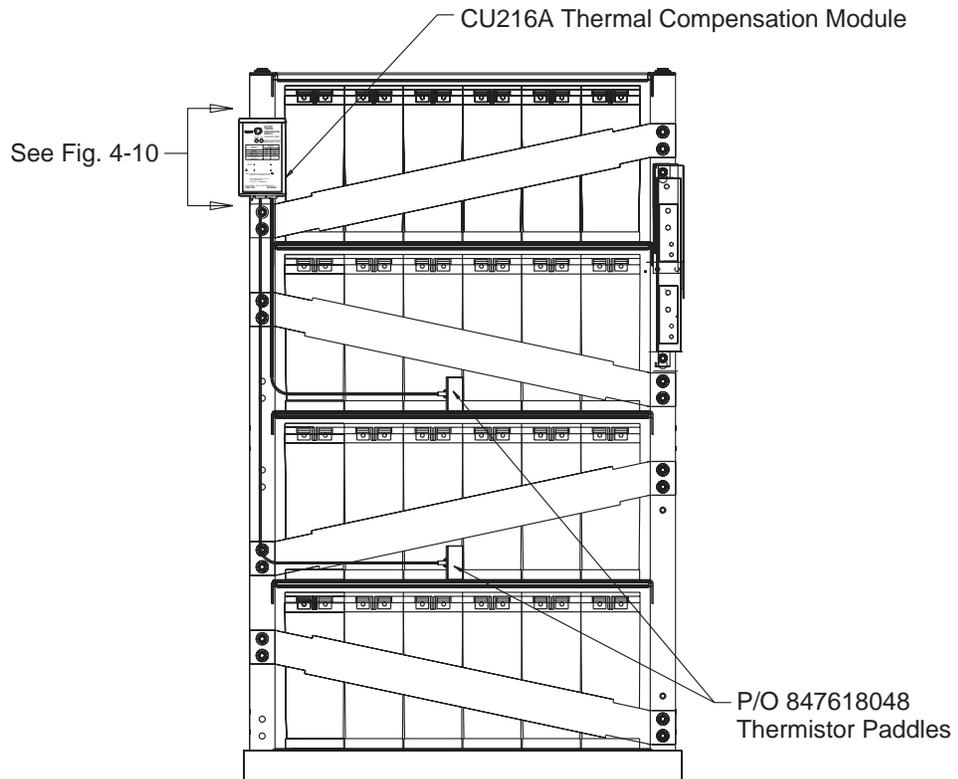

Figure 4-7: VR Battery stand (placement of thermistors)
2. Temporarily insert the thermistors in the battery locations to be monitored. See Figure 4-7 for suggested locations between the AT&T VR Batteries. Dress the thermistor wire sets from the Terminal Block Assembly to the thermistors and cut to proper length. The thermistors will need to be removed from the battery string during testing so do not secure them into place at this time.